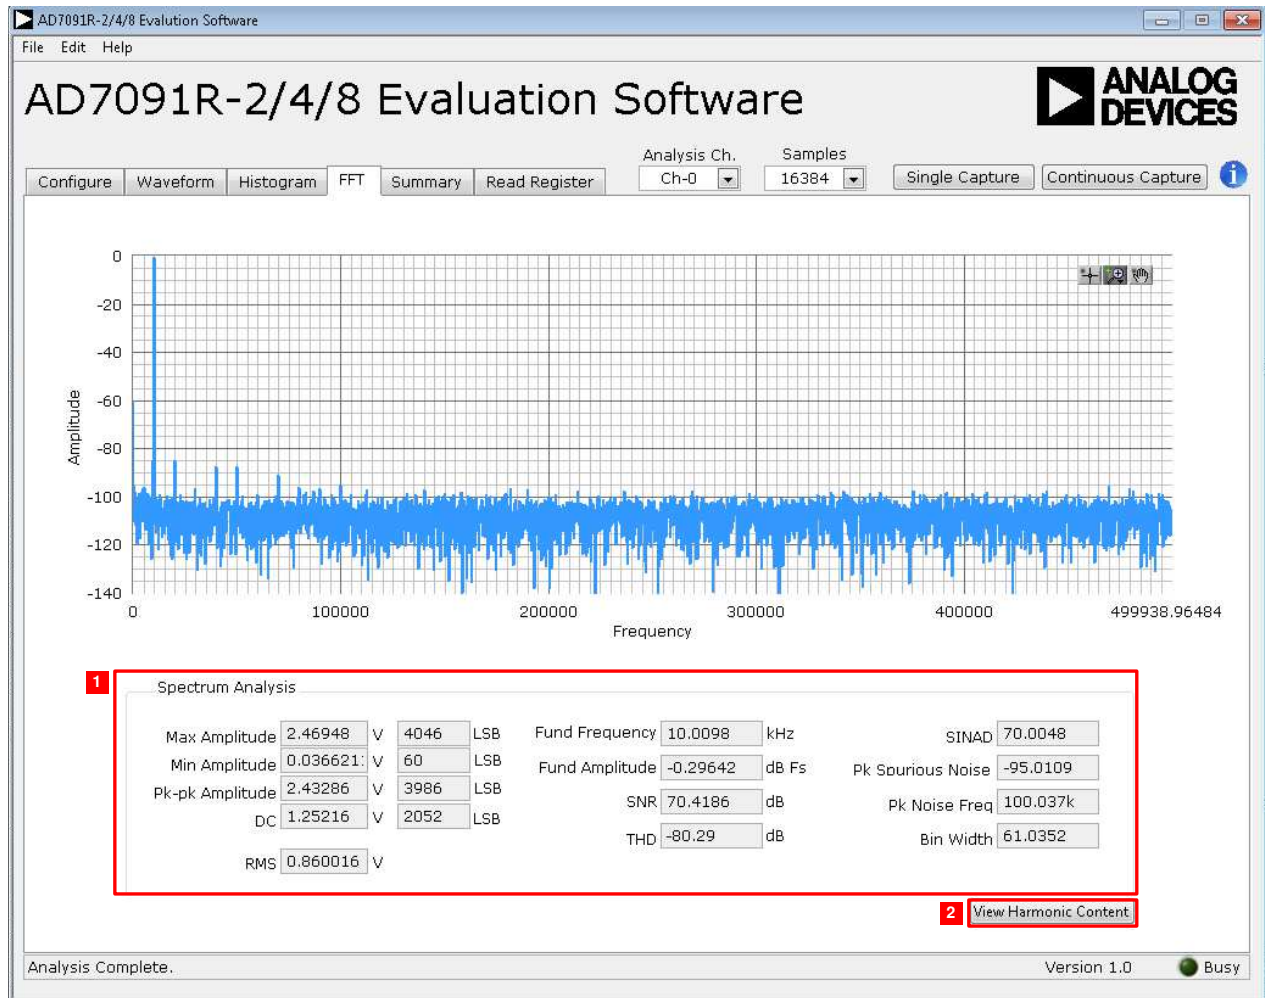

Figure 17. FFT Capture Tab
Figure 17 shows the FFT capture tab. This tests the traditional ac characteristics of the converter and displays a fast Fourier transform (FFT) of the results. As in the histogram test, raw data is captured and passed to the PC where the FFT is performed, displaying SNR, SINAD, and THD.
Figure 17 displays the spectral analysis results of the captured data.
- The **Spectrum Analysis** panel displays the performance data: **SNR**, **THD**, **SINAD**, dynamic range, and noise performance along with the input signal characteristics. See Label 1 in Figure 17.
- Select **View Harmonic Content** to switch the panel to display the frequency and amplitude of the fundamental in addition to the 2nd to 5th harmonics. See Label 2 in Figure 17.